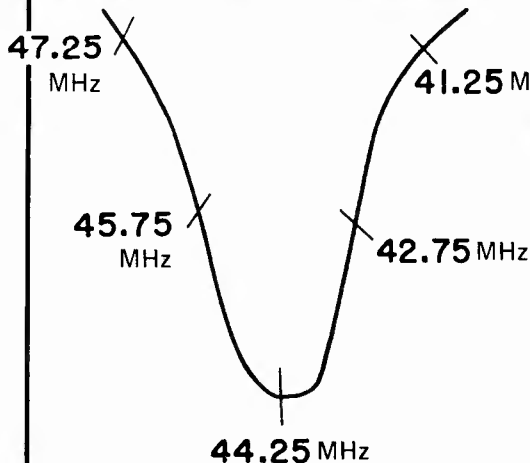

Figure 3
10. Adjust TIF-379 (Top & Bottom) to obtain a waveform on the oscilloscope similar to the pattern in Figure 3.